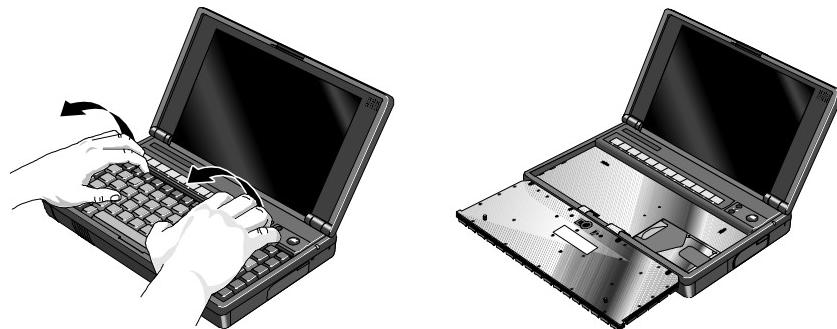

Figure 29 - Folding the Keyboard Open
4. Remove the keyboard by inserting your fingertips between the top row of keys and the case and then lifting. Then fold the keyboard gently forward so that it lies upside down on the table. *Do not pick up the computer while the keyboard is in this position.* See Figure 29.